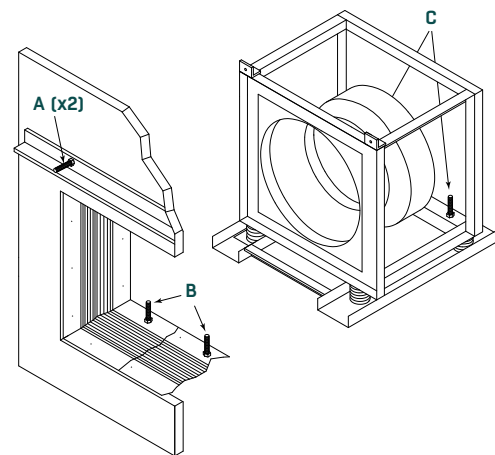

FIGURE 14. Fan with typical shipping restraints.
- 2) Each fan is restrained in six places using an all-thread, (see **FIGURE 14**).